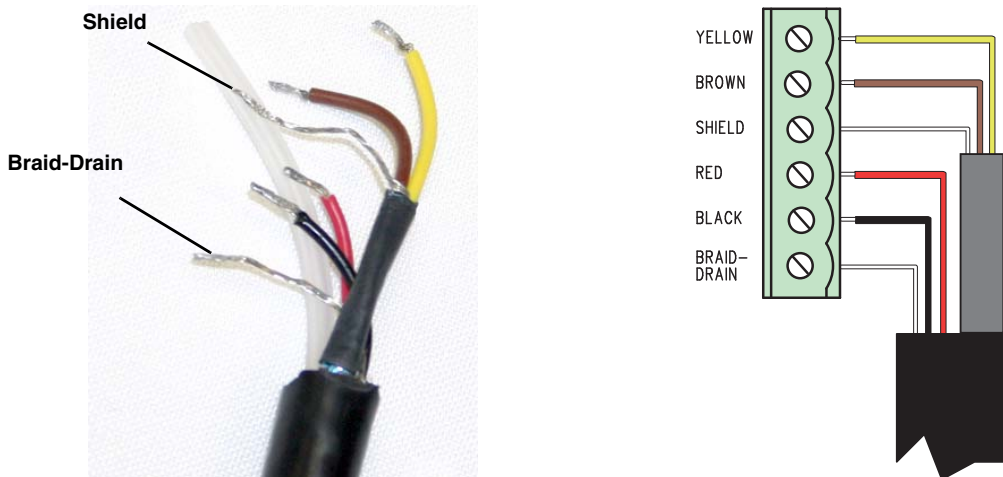
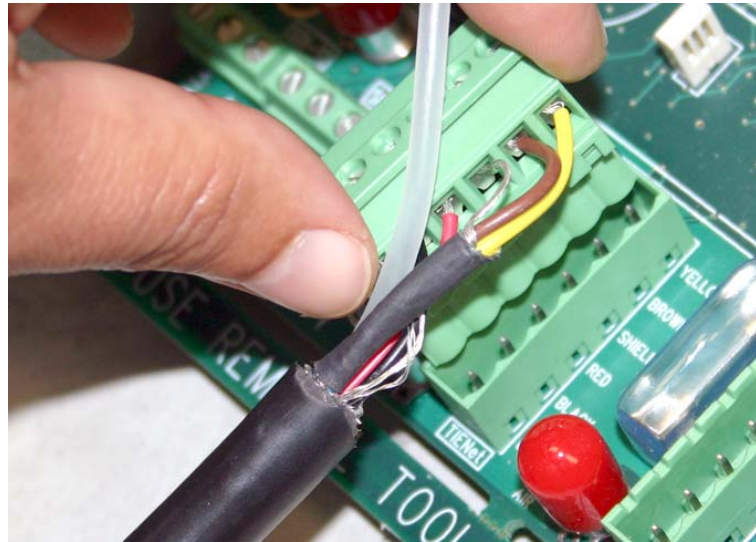

Figure 2-4 TIENet Device terminal connections
Figure 2-5 Attach wired terminal strip to case board socket
4. Attach the wire ends to the terminal strip as shown in Figure 2-4), then press the terminal strip back down into its socket on the case board, as shown in Figure 2-5, ensuring no wire connections are strained. Gently tug each wire when finished, to verify secure connection to the screw terminals.